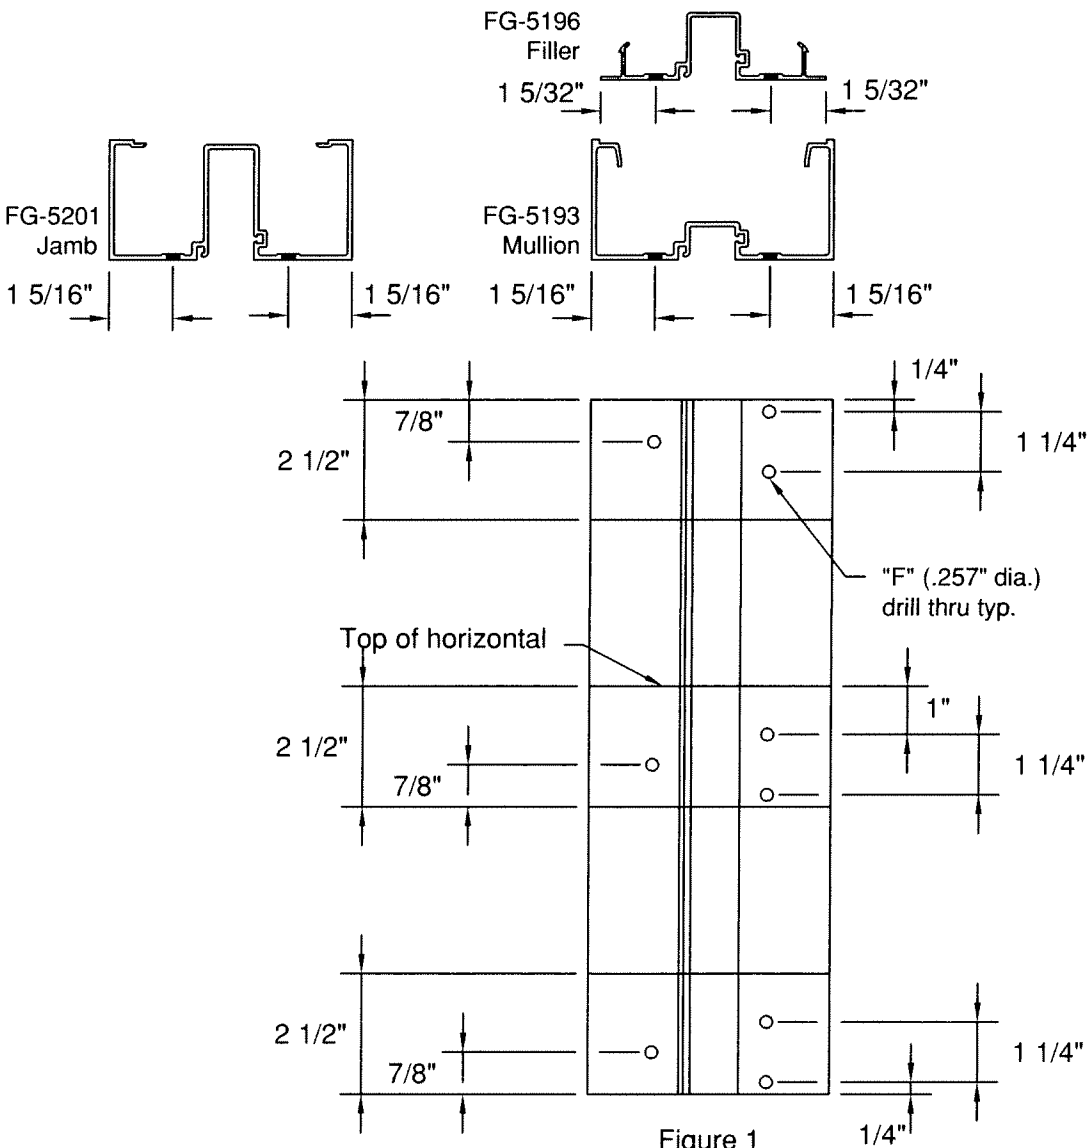

Figure 1
NOTE : refer to 1.3 and figure 1 for hole pattern at head,sill and horizontals.
- 2.2.3 Attach horizontals to verticals using (3)FS-8 (#14 x 1" sts spline screws) Trim excess sealant tape at joints with razor knife. DO NOT PULL TAPE TO TRIM. **See sheet 4 figure 1** for hole prep locations.